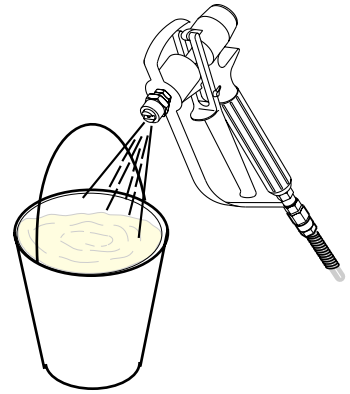

Fig.28
5) Using the gun discharge any residue of the product and the solvent into a bowl (fig. 28).